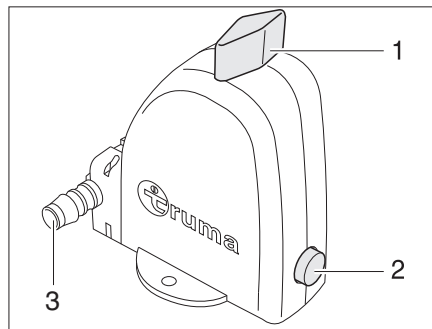

Fig. 307 Safety/drainage valve of the boiler - Operation position
The boiler is equipped with a safety/drainage valve (Fig. 307). The safety/drainage valve prevents water in the boiler from freezing, when there is frost and the heater is not switched on.
- ▷ The drainage neck (Fig. 307,3) of the safety/drainage valve has to be free of dirt (e.g. leaves, ice) at all times.
- Turn the knob (Fig. 307,1) 90° lengthwise to the safety/drainage valve. The pushbutton (Fig. 307,2) jumps out. The boiler is drained to the outside by the drainage neck (Fig. 307,3) of the safety/drainage valve.
- Turn the knob (Fig. 307,1) 90° crosswise to the safety/drainage valve.
- Push in the pushbutton (Fig. 307,2).